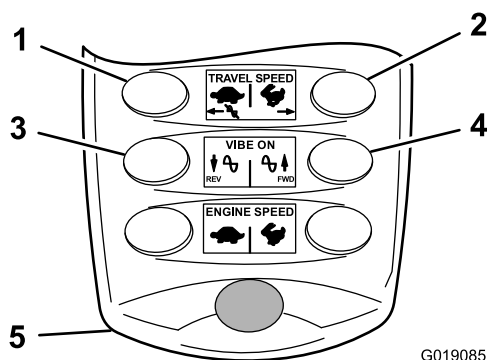

Figure 44
- Start the vibration function in the forward direction by pressing and releasing the forward-vibration button (Figure 44).
- Start the vibration function in the reverse direction by pressing and releasing the reverse-vibration button (Figure 44).